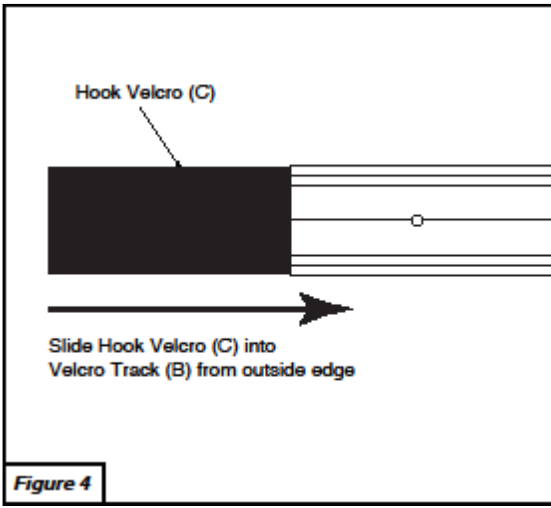

Figure 4
7. Once *Velcro Track* (B) has been installed on the wall, slide *Hook Velcro* (C) into wall track rails from the outside edge of the track to complete installation. See Figure 4.